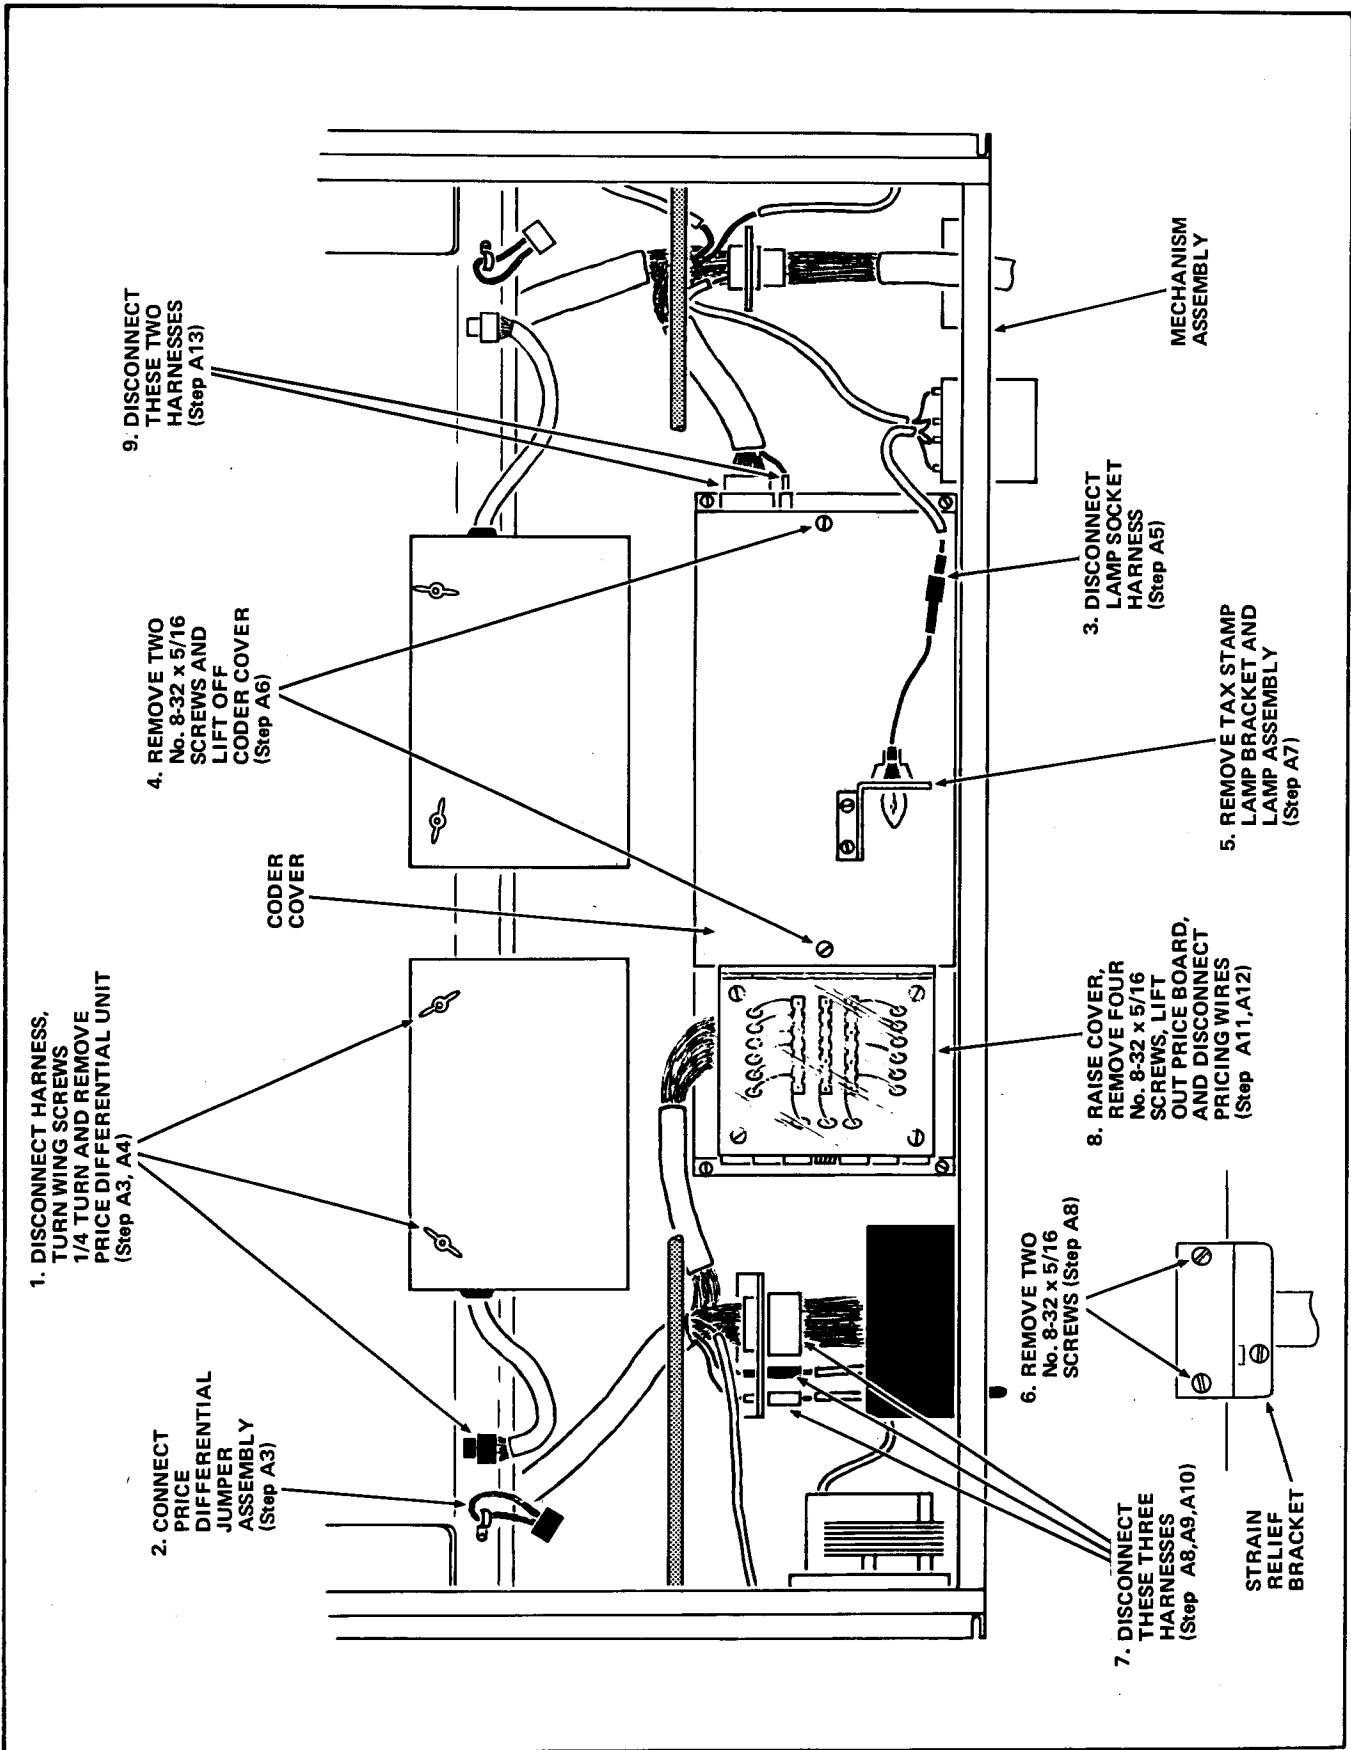

FIGURE 2
3. Disconnect the Harness on the Price Differential Unit from the Mechanism Harness Assembly and connect the Price Differential Jumper Assembly to the Mechanism Harness Assembly. See Figure 2.
4. Turn the two Wing Screws on top of the Price Differential Unit one quarter turn and remove Price Differential Unit from the Merchandiser. See Figure 2.
5. Disconnect the Lamp Socket Harness from the Mechanism Harness Assembly. See Figure 2.
6. Remove two No.8-32 x 5/16 Round Head Thread Cutting Screws and the Coder Cover from the Delivery Mechanism. See Figure 2.
7. Remove two No.8-32 Nuts with Lockwashers, two No.8-32 x 3/8 Round Head Screws and the Tax Stamp Lamp Bracket and Lamp Assembly from the Coder Cover. See Figure 2.
8. Remove two No.8-32 x 5/16 Round Head Thread Cutting Screws from the left Strain Relief Bracket and disconnect the Door Harness from the Mechanism Harness Assembly. See Figure 2.
9. Disconnect the Vend Motor Harness from the Mechanism Harness Assembly. See Figure 2.
10. Disconnect the Vend Counter Harness from the Mechanism Harness Assembly. See Figure 2.
11. Raise the Price Board Cover Assembly and remove four No.8-32 x 5/16 Round Head Thread Cutting Screws attaching the Price Board and Tape Assembly to the Price Board Channel. See Figure 2.
12. Disconnect all the Pricing Wires from the Price Board and Tape Assembly and remove the Pricing Wires from the Price Board and Tape Assembly. See Figure 2.
13. Disconnect the two receptacles of the Mechanism Harness Assembly from the Coder Assembly. See Figure 2.